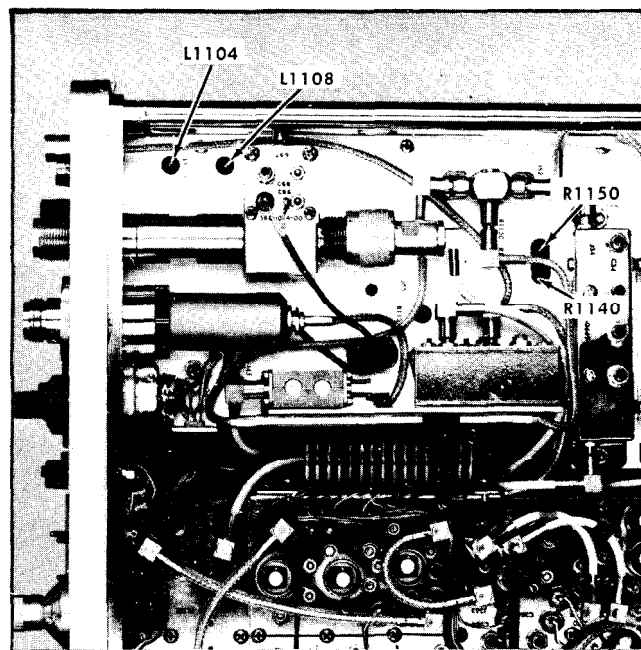

Fig. 6-34. Location of L1104 and 1108, R1150 and R1140.
d. Adjust L1108 (Fig. 6-34) for a positive oscillator start when the INT REF FREQ control is turned from its OFF to ON position. The signal position on the screen should be consistent as the INT REF FREQ control is switched from OFF to the initial ON position. (The control must not be turned past the initial ON position or the oscillator frequency will be changed.)
f. Adjust L1104 (Fig. 6-34) until the oscillator shift range, as the INT REF FREQ is rotated, is 1.2 kHz. The display is the 200th harmonic of the 1 MHz signal. The range of the INT REF FREQ control will also be related to the 200th harmonic, so $1.2 \text{ kHz} \times 200 = 240 \text{ kHz}$. With 100 kHz/Div dispersion this will equal 2.4 divisions.